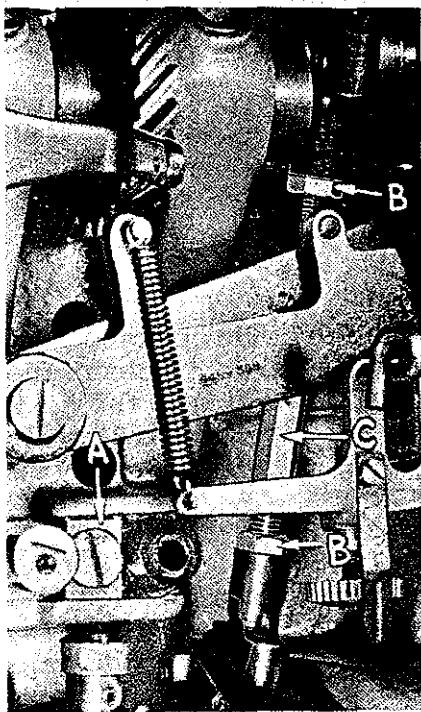

Fig. 5
Turn pulley in operating direction until needle enters needle guide slot in presser foot on left side. There should be .012 inch clearance between left side of needle blade and presser foot needle guide slot. Lightly tap the needle vibrating crank adjusting lug (A, Fig. 5) to right or left to secure this adjustment. In the photograph the needle vibrating crank has been removed for clarity.
Turn pulley in operating direction until point of looper is directly over center of needle as needle is returning on its left stroke. The back of needle eye should now be $1/16$ inch from looper point. If adjustment is required at this point, loosen the two locknuts (B, Fig. 5) on ball joint connecting rod (C) and turn rod to secure this setting.